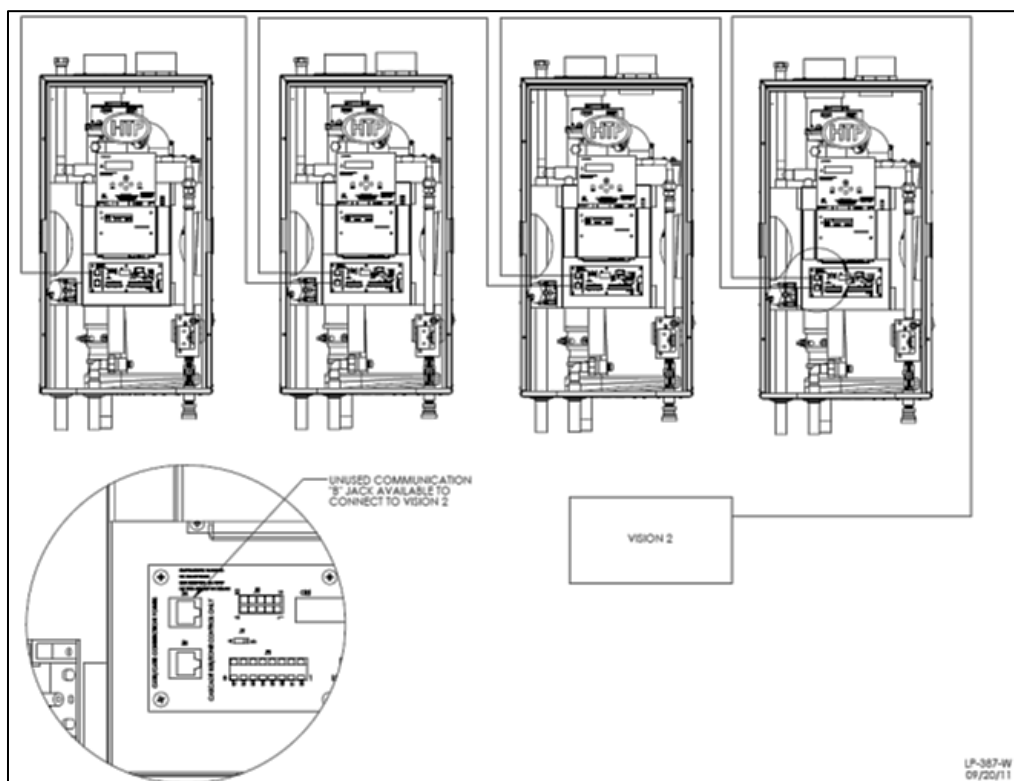

Figure 30 – LP-387-W
2. Connect the indirect sensor (7250P-325) to the terminals marked DHW SENSOR (shown in Figure 30) in the electrical junction box.
2. Connect a building management system or other auxiliary control signal to the terminals marked 16, 0-10 VOLT + and 17, 0-10 VOLT – in the electrical junction box (shown in Figure 30). Caution should be used to ensure that the 0-10 VOLT + connection does not become connected to ground.
3. Move jumper on connection board (shown in Figure 30) from A to B.